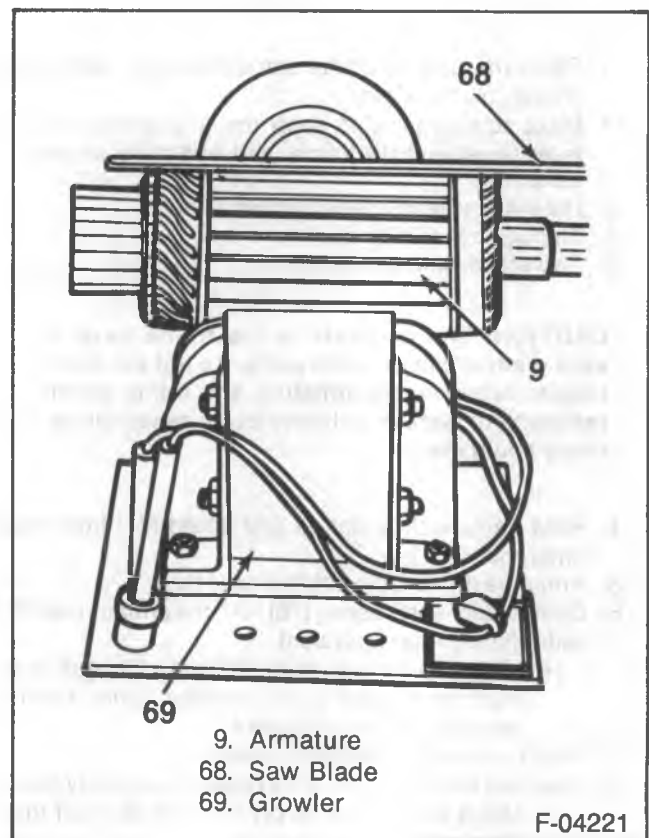

Figure 7—Testing the Armature for Short Circuits
3. Armature for short circuits (figure 7).